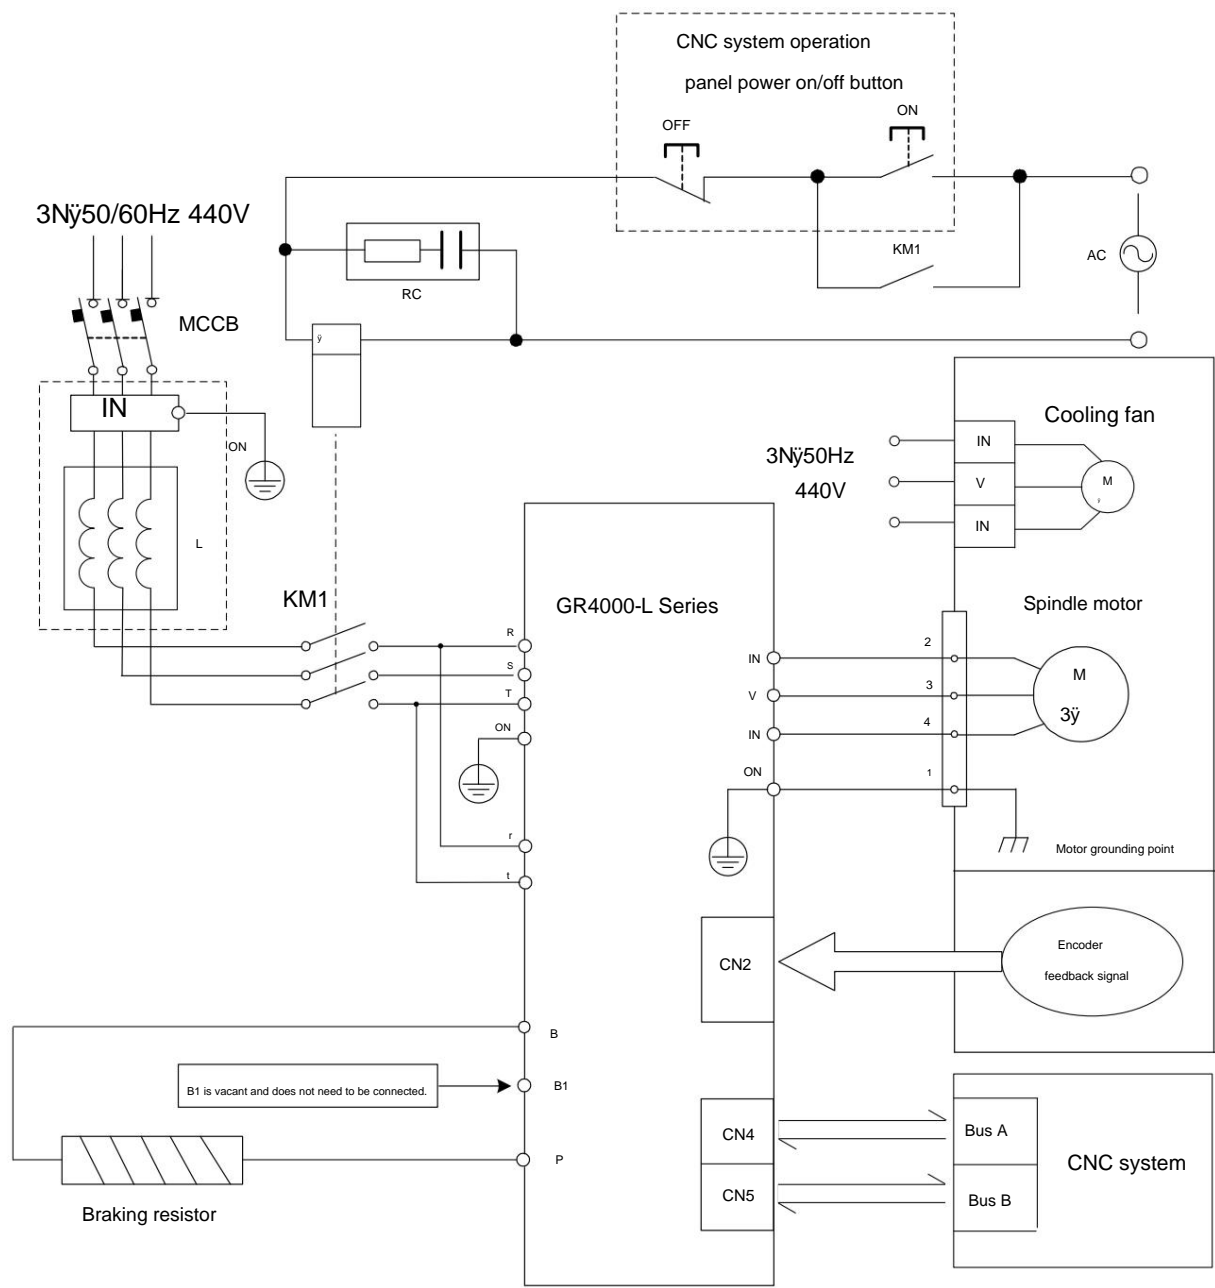

Figure 3-10 Main circuit wiring diagram of AC asynchronous spindle servo motor for GR4000-L series products
- Example If the user refers to Figure 3-10 for wiring, be sure to select the appropriate circuit breaker MCCB according to the description in <Appendix B>.